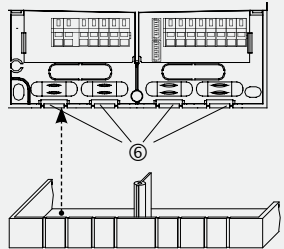

Fig. 2: cable feed from below
- Cut the left and right plastic flaps ⑥ using an appropriate tool and break them out of the case (fig. 2).